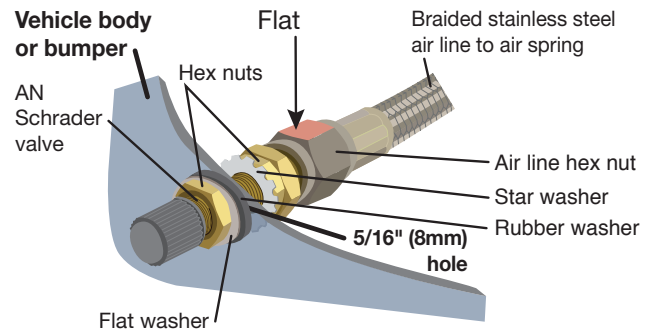
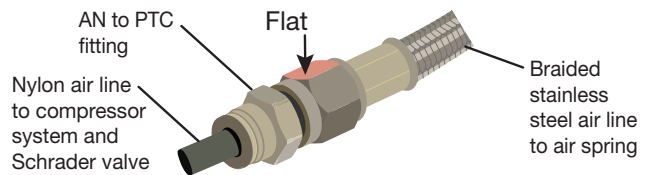

Fig. 37
Fig. 38
The braided stainless steel air line must be routed to the rear of the vehicle. Install the air line through one of the openings between the upper coil spring mount and the frame and then back to the rear where the schrader valves will be mounted (Fig. 37).
2. Tighten the air line hex nut finger-tight, then use 2 wrenches to turn 1 additional flat (1/6 of one full turn). Do not overtighten (Fig. 37 or Fig. 38). The easiest way to tighten the fitting is off the vehicle. Install the Schrader valve in the chosen location.